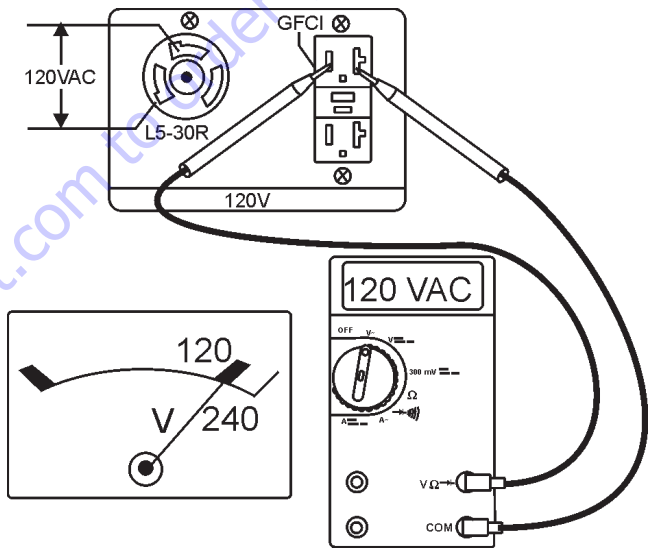

Figure 23. 120V GFCI/AUX. Receptacles
- Read voltmeter on front panel of generator (Figure 23) and verify that 120 VAC is displayed. Using an external voltmeter as shown in Figure 23, verify that 120 VAC is present at the 120V twist-lock and GFCI duplex receptacles.